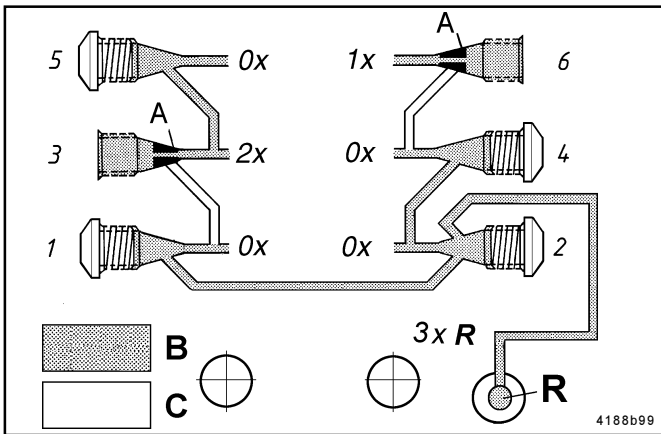

Fig. 4 - Internal return of supplied lubricant, only on back mounted SSV divider blocks
- To achieve this automatically, **outlet 2 has to be closed with a closure plug** (see Fig. 4). Lubricant quantities of pair and impair outlets are returnable via the connection of outlets 1 and 2.
- For returning, always start with the outlets with the lowest outlet numbers, i.e. 2, 4, 6... or 1, 3, 5... **plus outlet 2**. As shown in Fig. 4, the lubricant from outlets 1, 2 and 4 (3xR) will be internally returned to the reservoir.